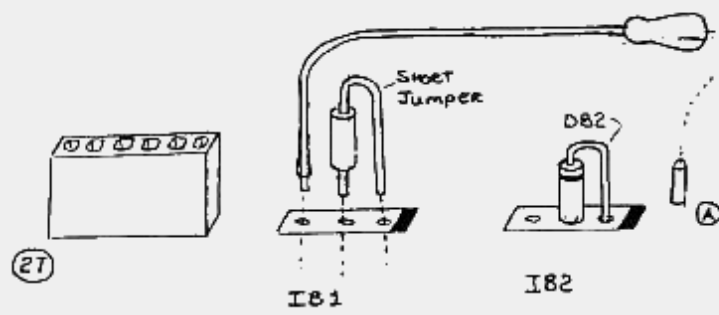
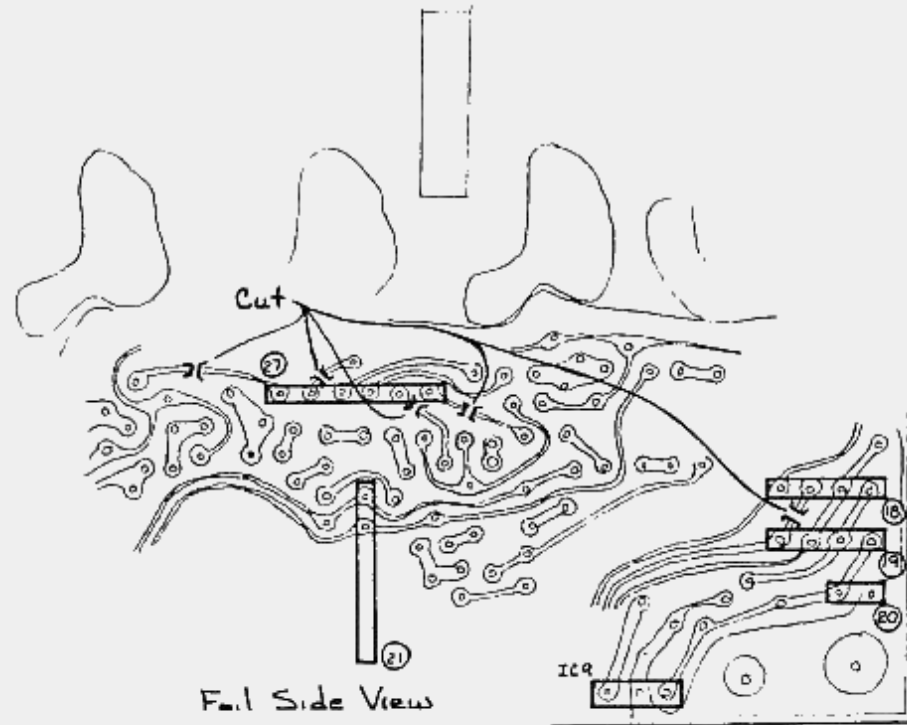

FIGURE 1
FIGURE 2
10. Install Q401, Q402, R401, R402, D401 and D402 as shown on figure 2, again being careful to check for solder bridges, short, etc.
11. Check to see if D82 is installed, as shown in figure 1. If it is not, install it (1S1555). D83 should also be installed on the foil side of the board, as shown in figure 2.
12. Move the filter select jumper to the "A" pin, as shown in figure 1.